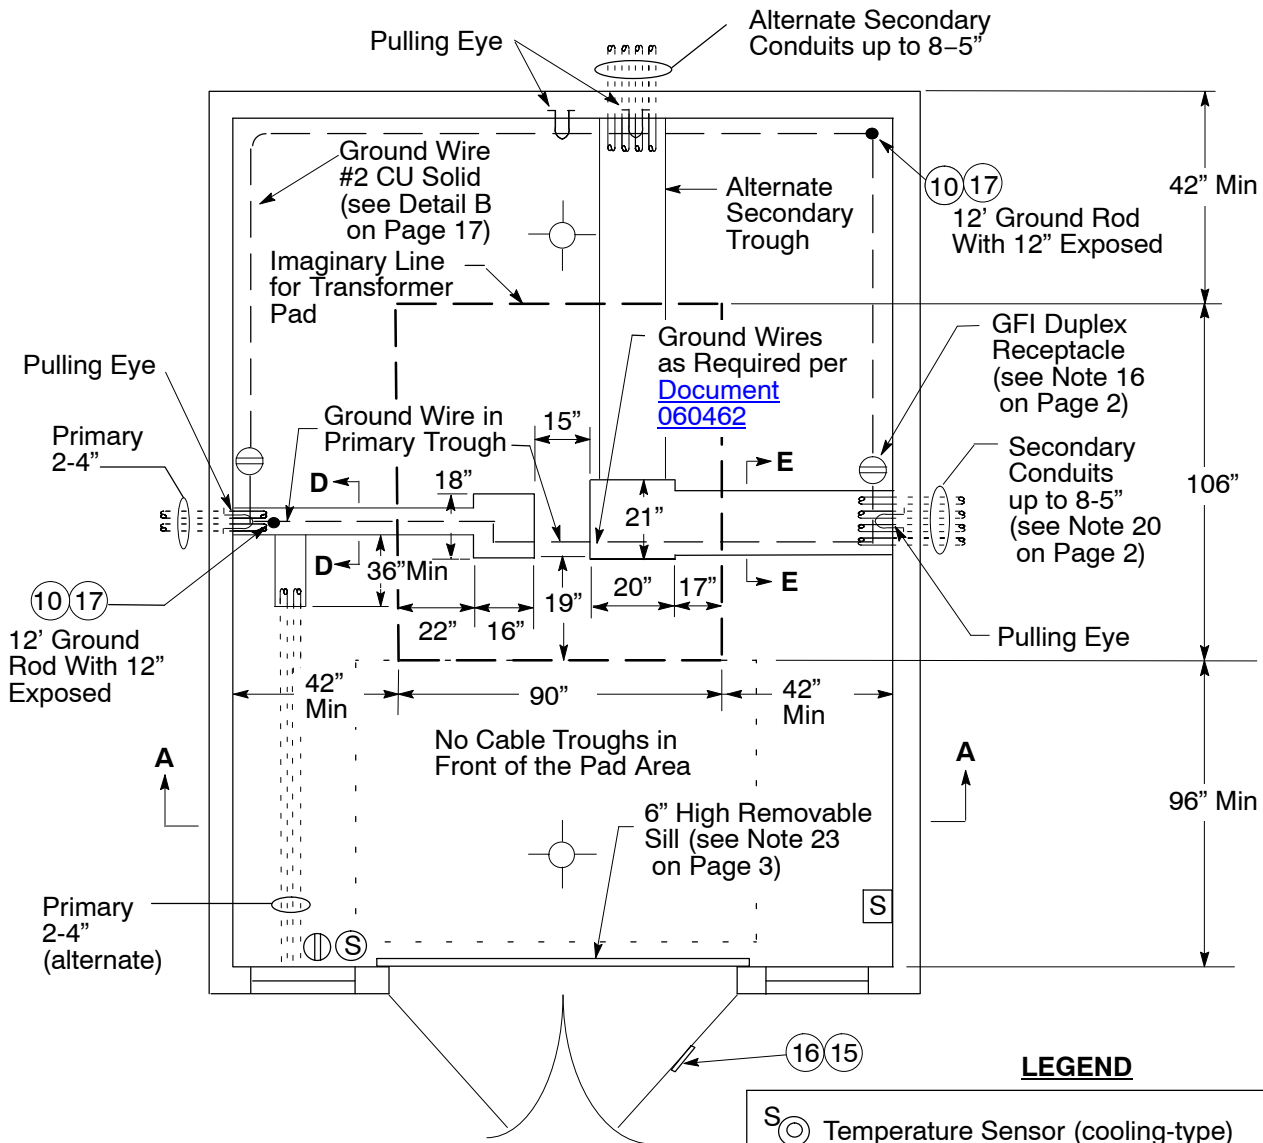

Figure 1
- A. For main service of up to 7 sets of cables per Greenbook Document 063928 **without** a separate fire pump service, or where the combined mains of the service and fire pump do not require more than 8 cables, the secondary are cables in an open trench to conduits stubbed through the right-side or rear vault wall (see Figure 1 on Page 5). Alternately, the cables may terminate on a wall-mounted bus stub.